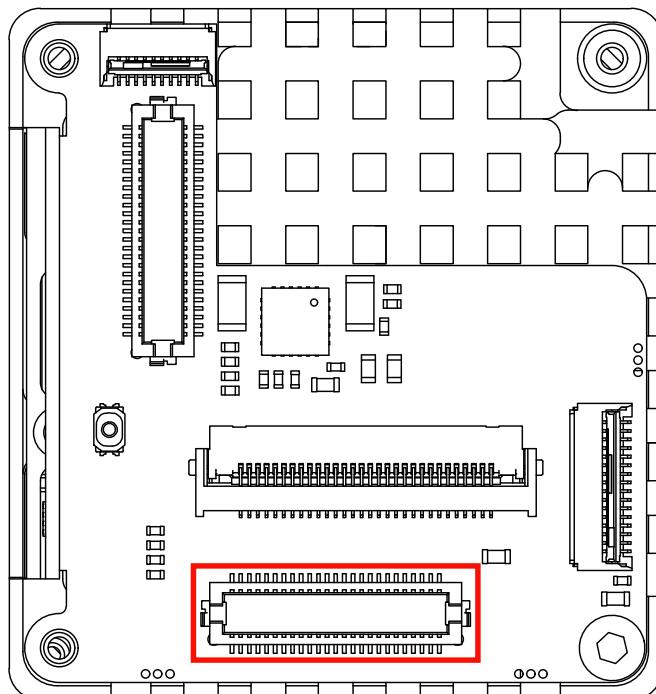

Figure 5.2: View of the rear side of WEOM with Interface System connector J1 (highlighted)
Electrical interface of WEOM consists of a single high-density 50-pin connector Hirose, type DF12-50DS-0.5V(86). See the red rectangle in figure 5.2. The recommended mating connector is Hirose DF12(5.0)-50DP-0.5V(86) for a mating stack height of 5 mm. Pin definition of Interface system connector is shown in table 5.2.